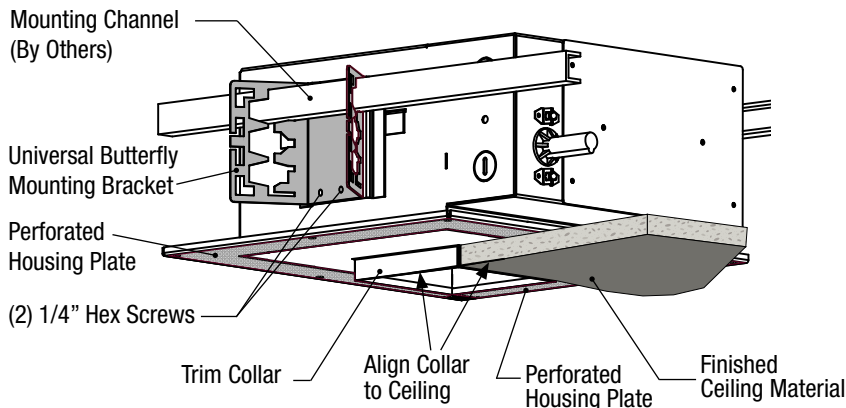

FIGURE 1
Step 6. The perforated housing plate is adjustable from 1/2" to 1" ceiling thickness. Fine adjustments can be made by loosening the two (2) 1/4" HEX SCREWS on both UNIVERSAL BUTTERFLY MOUNTING BRACKETS and set collar depth accordingly **Fig 1 / Fig 5 Detail**.
See Fig 1. Step 6.
Step 1. CUT A CLEAN SQUARE OPENING in the CEILING MATERIAL to fit the trim collar. Install the ceiling material below housing as shown in **Fig 1. Ceiling Cut-Out - 4.13" x 8.13"**